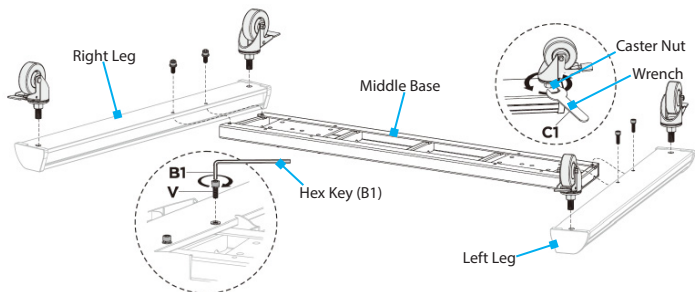

Figure 1
1. Flip the **Middle Base, Left Leg, and Right Leg** upside down and arrange as shown on a clean and flat surface. (Figure 1)